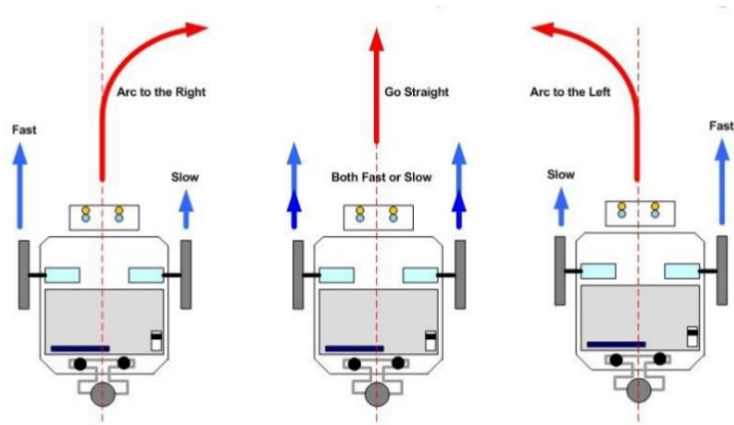

FIGURE 1: AN EXAMPLE OF HOW TO MAKE THE ROBOT TURN.
- **Wheels**: The robot must utilize wheels for movement. A two-wheel design (as shown in Figure 1) is an example, but any wheel configuration is allowed within the size limitations.